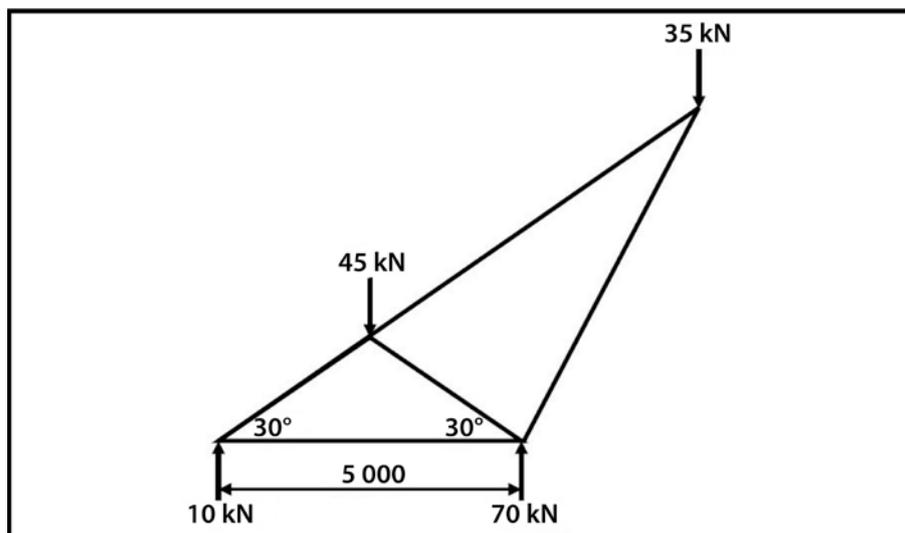

FIGURE 7.1
7.1 Determine graphically the magnitude and nature of the forces in all the members in **FIGURE 7.1**.